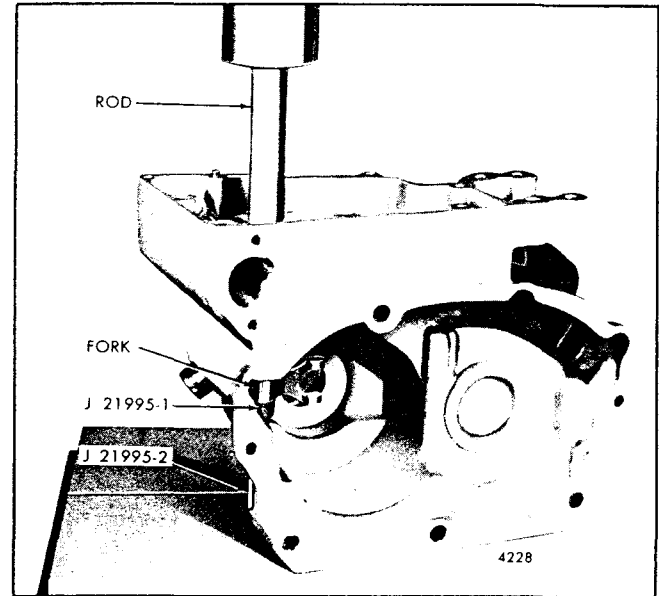

Fig. 10 - Installing Governor Operating Shaft Fork on Operating Shaft and Bearing Assembly
- e. Support the housing, lever, shaft, fork and installer, right side up, on the bed of an arbor press as shown in Fig. 10, with the end of the installer pin resting on the bed of the press and the disc centered under the bottom of the operating fork. Then place a short rod on the top end of the operating shaft and under the ram of the press and press the shaft into the fork until